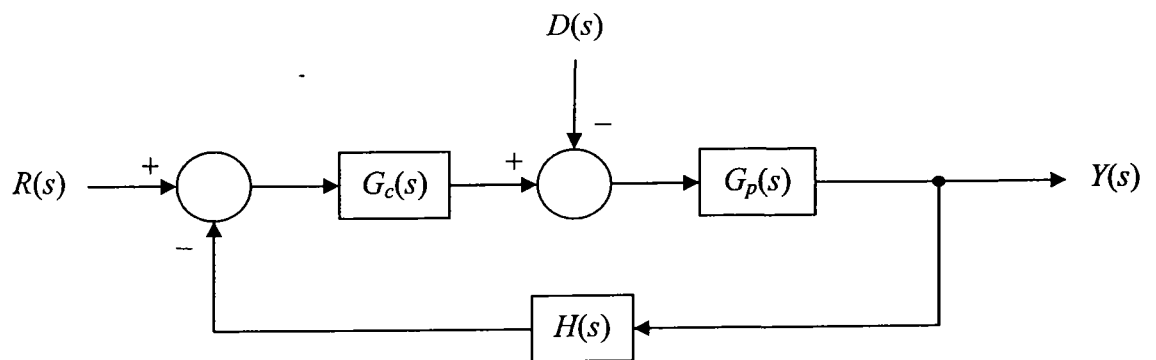

Figure Q2
- Q2.** A control system for accurately controlling the position of a CNC machining center has a block diagram shown in Figure Q2. The transfer function of the process, controller and feedback are $G_p(s) = \frac{4}{s(s+a)}$, $G_c(s) = K_p + \frac{K_I}{s} + K_D s$ and $H(s) = 2$ respectively.